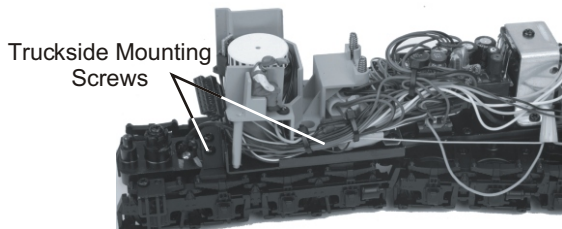

Figure 5. Locations of Truckside Mounting Screws
First, remove the truck sides from the truck block. To do this, turn your engine upside down. If there are visible Phillips screw heads between the truck frame and truck block (see Fig. 5), go to step A. If not, go to step B.
B. Remove the trucks from the chassis and the truck sides from the trucks in order to slip the new tire over the grooved drive wheel. See Fig. 5 for which screws you must remove to do this. Once the truck sides have been removed: